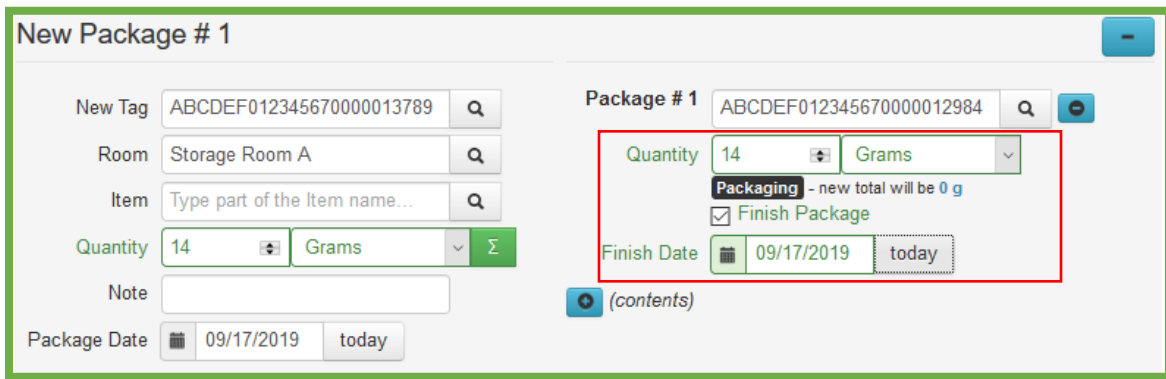

Figure 6: Finishing a Source Package
If a source/content package remaining quantity is calculated to be zero (0) when creating a new package, the user will now be able to finish that source package at the same time as creating the new package(s). **Figure 6** below shows an example of finishing a source package when creating a new package. Once the user has selected the Finish Package box, identified a Finish Date, and selected “Create Packages” the source package will be moved to the Inactive tab.